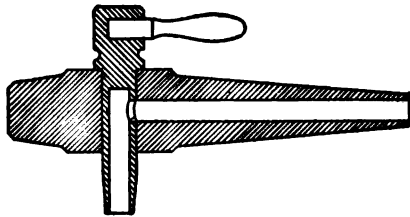

Fig. 65.
(1) By making a sectional view of the entire object. (Fig. 65). Note:—The small handle is not cross-sectioned as it is solid.